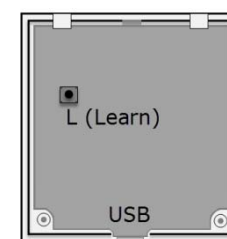

Figure 5
*NOTE: EnOcean devices have a "Learn" button. Learn buttons are typically accessed through a small hole on the side or back of the device (see Figure 5). Learning EnOcean devices in and out of the model 17200 RCN is accomplished using buttons and LED indicators on the 17200 PCB and then pressing the Learn button on the EnOcean device.*
4. Short button press (<1 sec) of the "learn button" on the back side of the thermostat, see Figure 5. (Short press, don't hold the learn button.)